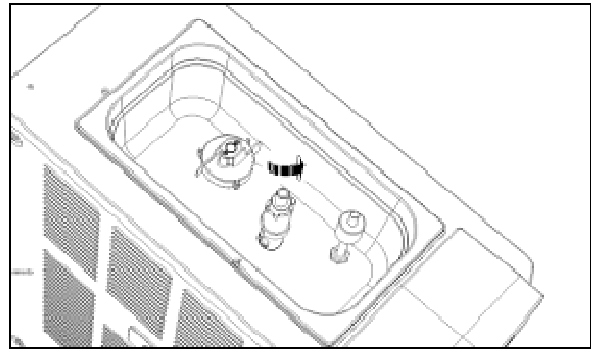

Fig. 32
- Lifting and turning the upper part of the tube counter clockwise (fig. 32), and positioning the pin on the notches which become gradually higher, increases the amount of mix that can flow into the freezing chamber so changing the consistency and the bulk of the same.